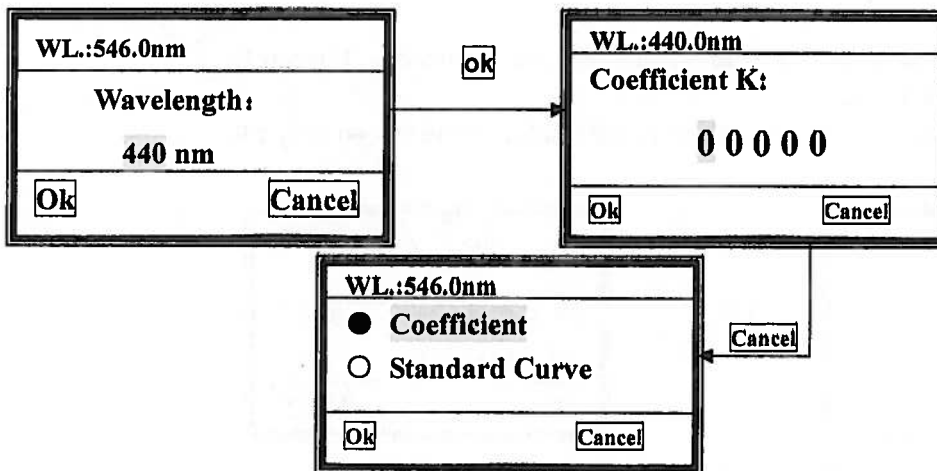

Fig.3-7
- 2) choose the wavelength you need by pressing **【^】** and **【v】**, followed with **ok**(F1) pressed. It goes into the coefficient setting interface. (Fig. 3-7)